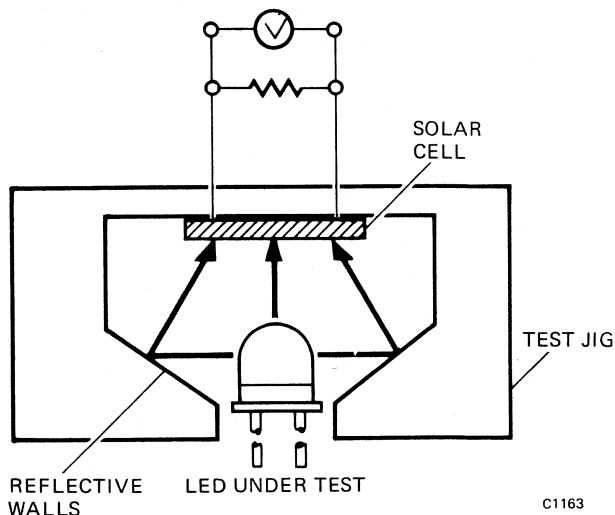

Fig. 1. Diagram of Jigging for P and F Measurements
**Measurement Techniques and Procedures.** When placed within a jig with reflective walls, as shown in Figure 1, virtually the entire output of the LED falls upon the